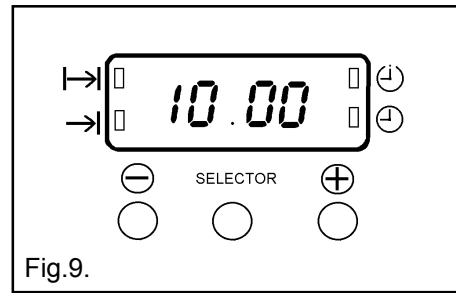

Fig.9.
- i) Ensure the electricity supply is switched ON and that the correct time of day is displayed, e.g. 10.00am as Fig. 9. Place food in oven.